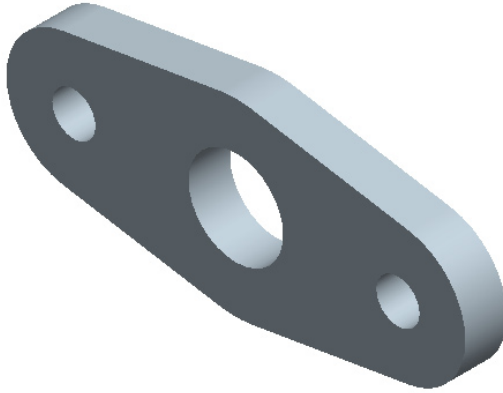
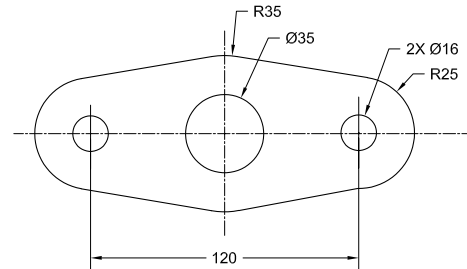

Figure 3-26 Model for Tutorial 2
Figure 3-27 Sketch of the model
In this tutorial, you will draw the sketch for the model shown in Figure 3-26. The sketch is shown in Figure 3-27. (Expected time: 30 min)
3. Clear the **Regenerate** check box and then modify the values of the dimensions, refer to Figure 3-27 for dimension values.